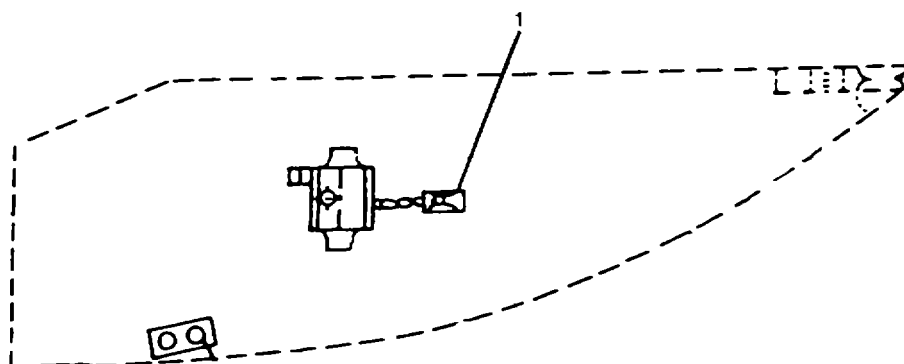

FIGURE 2-3. Bow Anchor Windlass Assembly - Chain Stopper Location.
- (1) Chain stoppers (Devil's claw) (1, FIGURE 2-3) in place, securing chain.
- e. Remove chain stoppers (1, FIGURE 2-3) and release hand brake if windlass is required for immediate service.